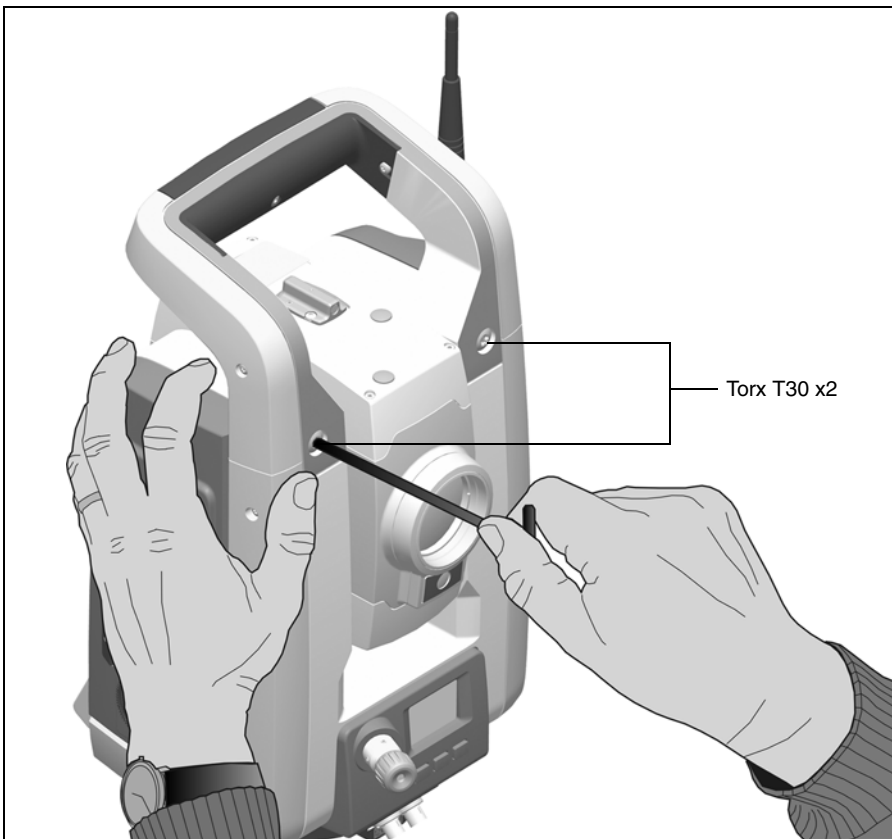
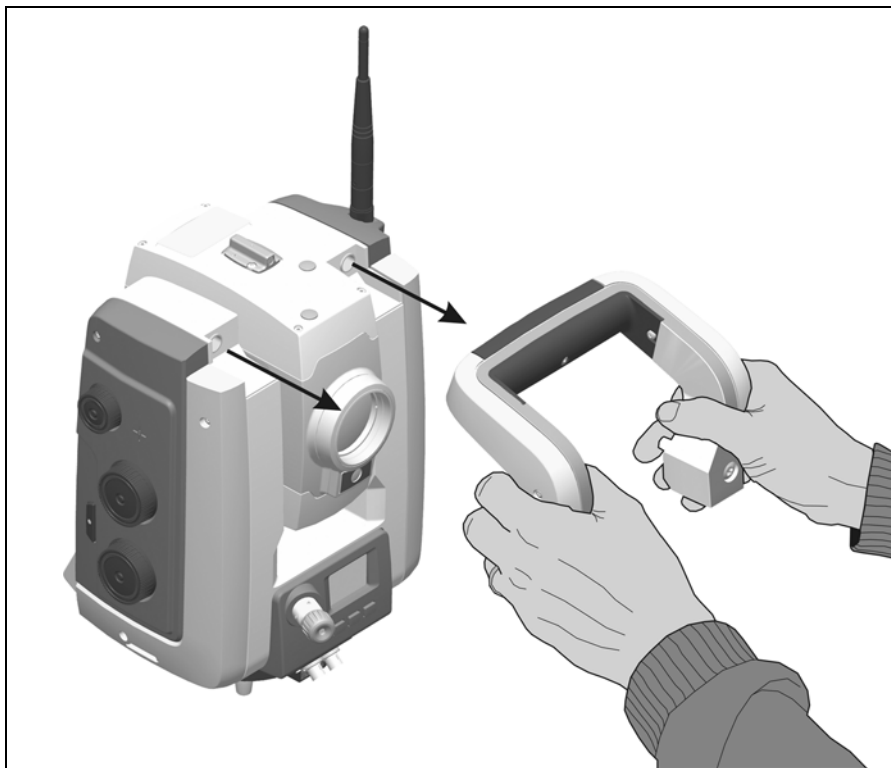

Figure 3.20 Removing the instrument handle
Figure 3.21 Detaching the instrument handle
2. Slide the handle horizontally away from the front of the instrument. See figure 3.20 and figure 3.21